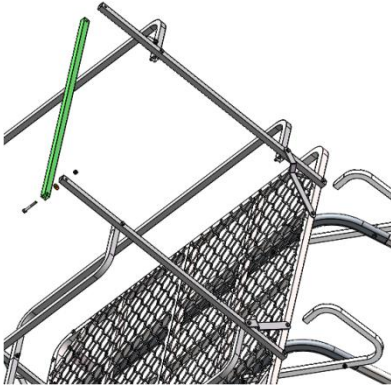

Figure 21
Step 20: Attach the door crossbar(TS305.15) to the door upright rail (TS305.16) by using one 1/4"-20×2" bolt (48153B), one nylon washer blk 5/16" and one 1/4" lock nut (48752B). Leave these hand tight for now. (**Figure 21**)